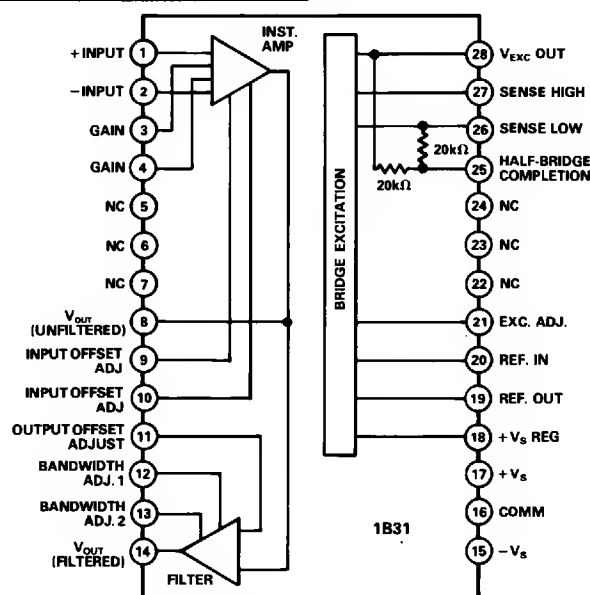

Figure 1. Block Diagram and Pinout
Model 1B31 is based on a two-stage amplifier design and an adjustable voltage regulator section, as shown in Figure 1. The front end is a low noise, low drift, instrumentation amplifier (IA) that is optimized to amplify low level transducer signals (from 2mV full scale) riding on high common-mode voltage (±9.5V). The gain of the IA is programmed by a single resistor (1V/V to 2500V/V) and the input offset nulled out by an external potentiometer across the offset adjust Pins 9 and 10. The inverted signal ($V_{-INPUT} - V_{+INPUT}$) is brought out to Pin 8 for applications such as vibration and torque testing where the unfiltered output is required.